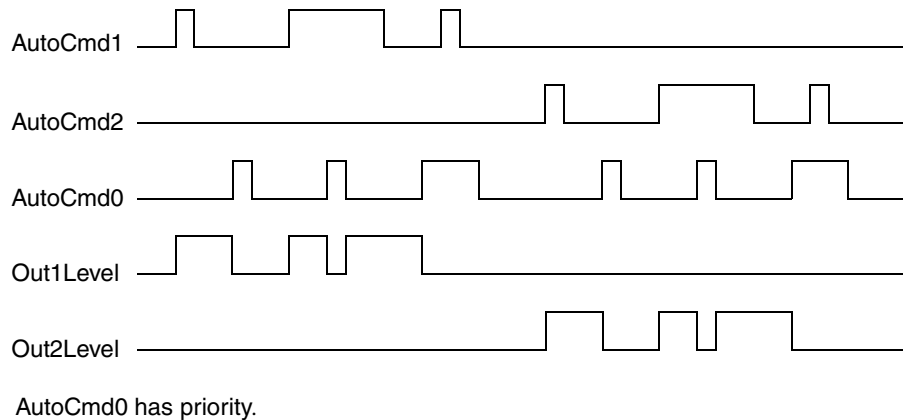

Figure 124. Status relations of OutLevel parameters and Auto commands (BiCore)
- In Auto mode, there are additional parameters *AutoCmd2*, *Out2* and *Out2Level*. The influence of *AutoCmd* parameters on *OutLevel* parameters can be seen in Figure 124 on next page.